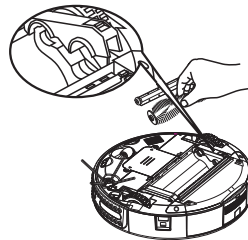

Fig.3
2. Take out both main brush and floor brush in this way. (see Fig 3)